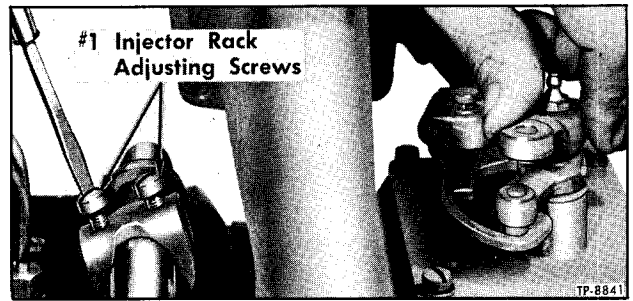

Figure 45—Adjusting No. 1 Rack to Governor
A. Manually hold control lever in full throttle position (fig. 45).
Adjust No. 1 injector rack lever (fig. 45) so that